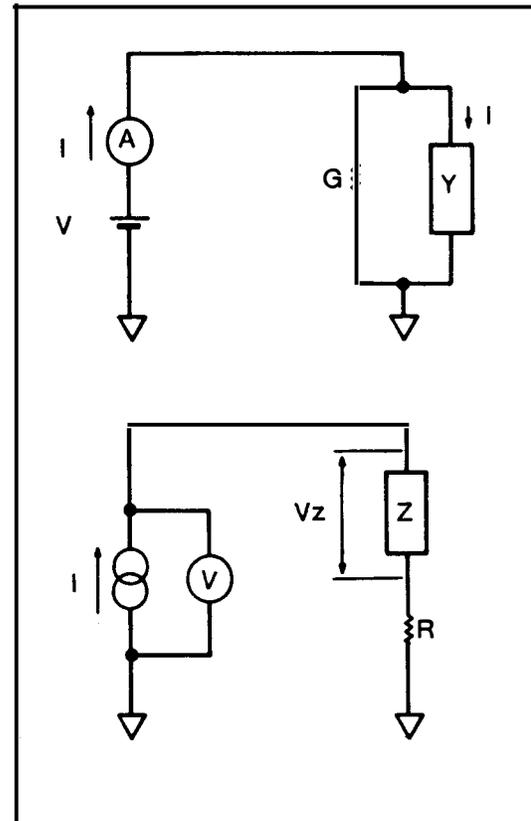

Figure 4. Negative Resistance Measurements
Figure 4 shows two methods of stopping a SMU from oscillating when measuring (5) of negative resistance devices.